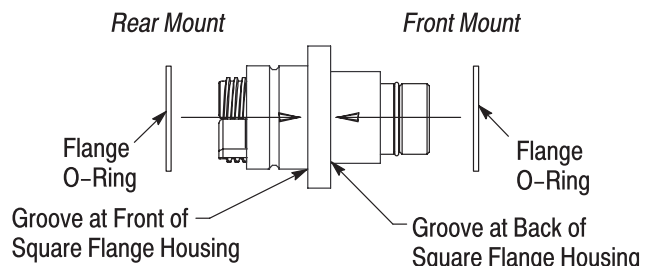

Figure 13
8. Align the keyways (located inside) of the square flange housing with the external keys of the housing, and slide the square flange housing onto the housing until it stops. The interference fit of the internal O-ring of the square flange housing with the housing should prevent the square flange housing and housing from separating during assembly. See Figure 13, Detail A.
9. For mounting the connector onto the back of the panel, install the flange O-ring into the groove at the front of the square flange housing. For mounting the connector onto the front of the panel, install the flange O-ring into the groove at the back of the square flange housing. Refer to Figure 13, Detail B.